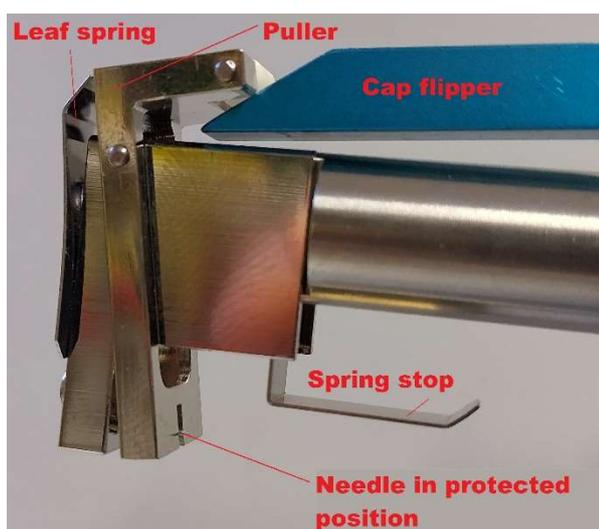

Figure 1: Decapper arm in home position
9. Open the plexiglass cover and inspect the de-capper arm. Its position should be as indicated in the figure 1:
PLUGGO's red emergency stop button (see Fig 1) works like a normal switch i.e., after use, it has to be pressed again to reset and if necessary, press the start button again. It is recommended to test this function at this time.